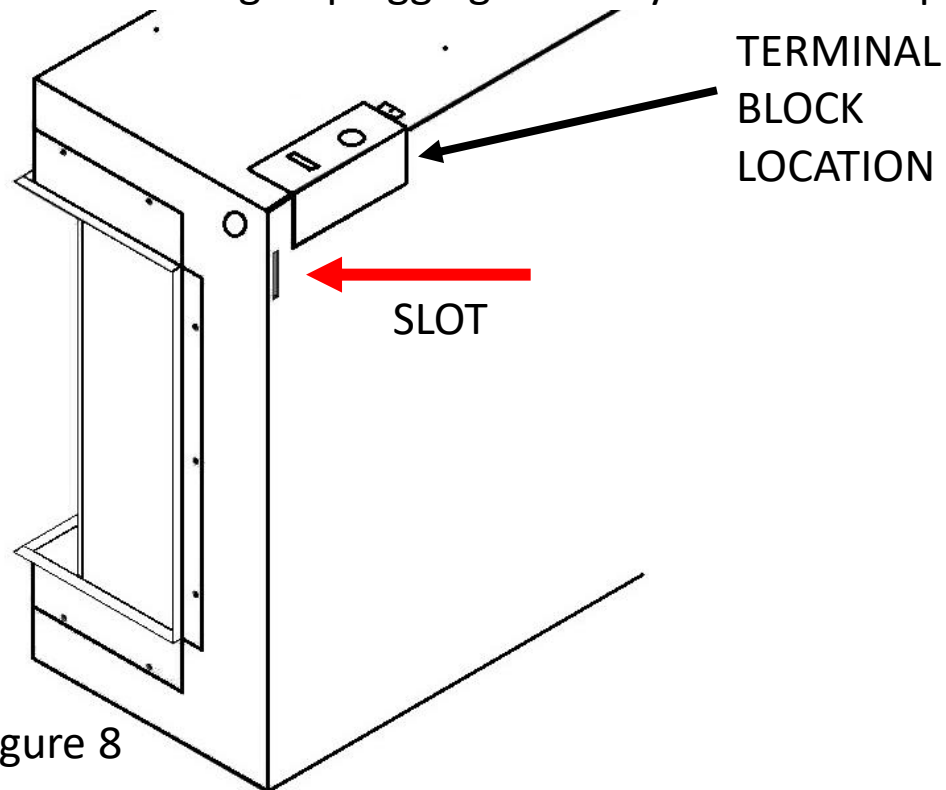

Figure 8
- Locate the slots on the back of the fireplace (see *figure 8*), they are on the back top left and right of the fireplace. This is where the hooks (see *figure 9*) on the bracket will hook into.